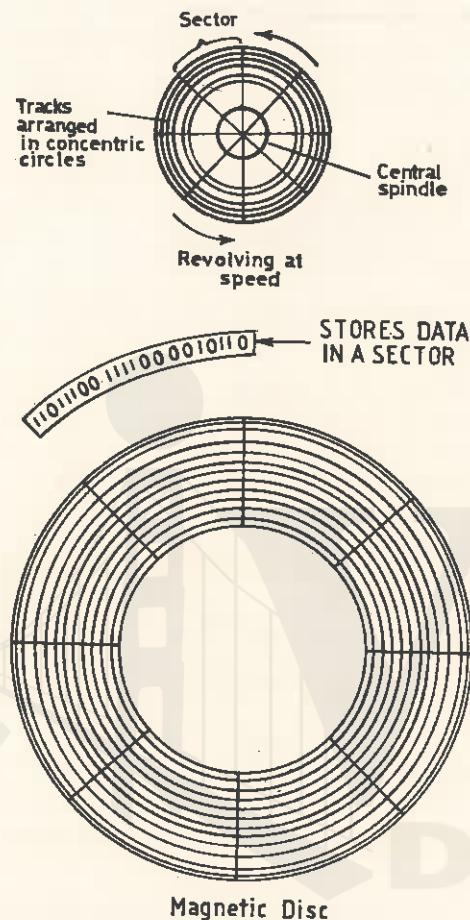

Fig. 36.11. Tracks and sectors of a disk.
(4) Magnetic disk
- On a magnetic disk, information is stored on *tracks* arranged in concentric circles (Fig. 36.11) with each character represented by a pattern of *bits* in sequence on one track. Although varying in length, each track contains the same number of characters.